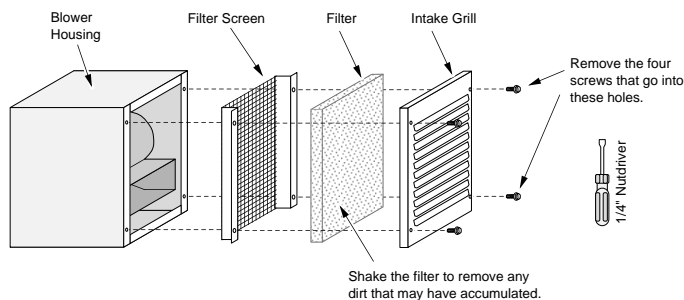

Figure 17
- The blower utilizes a filter that requires periodic cleaning (see Figure 17). Show the homeowner the blower location and inform them of the need to clean periodically.